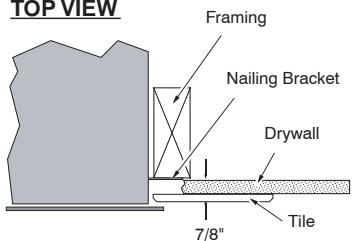

Figure 4
- Nailing brackets are provided on the exterior of the fireplace to secure the fireplace to the framing (see Figure 4). If using $\frac{1}{2}$ " facing (i.e.: drywall), use the standoff closest to the face of the fireplace (see Figure 4 item "a"). If using $\frac{7}{8}$ " to 1" facing, use the other standoff (see Figure 4 item "b").